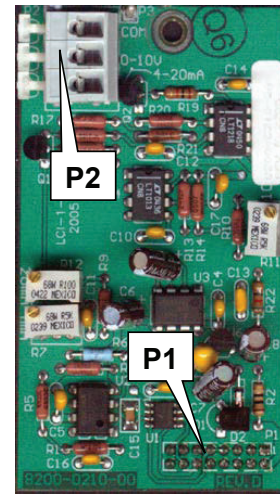

Figure No. 5
3. Locate the Analog Output terminal block P2 on the 2XX-DAC board. See Figure No. 5.